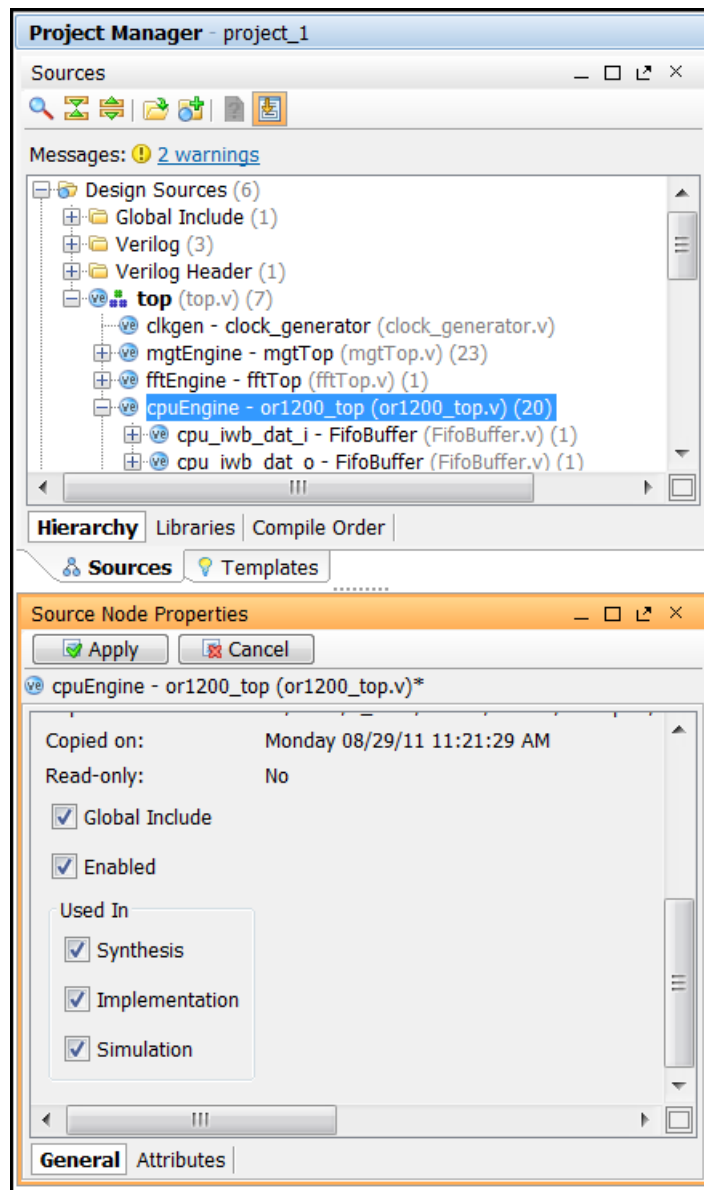

Figure 7: Source Node Properties Window
2. Select the **Set Global Include** command, or use the **Global Include** checkbox in the Source Node Properties window, as shown in Figure 7.